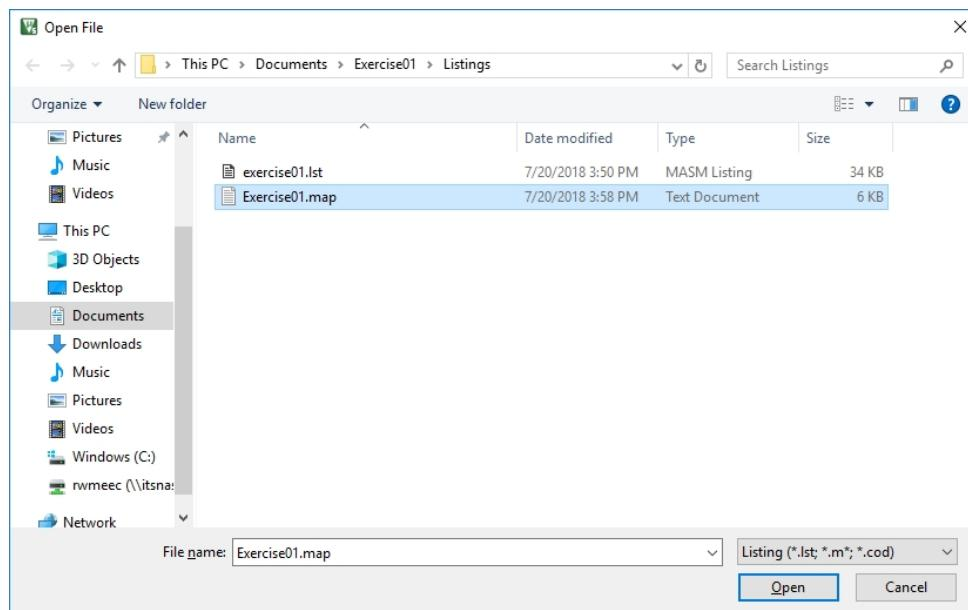

Figure 20. Opening Map File
- From the µVision IDE main menu, select File→Open to launch the Open File window, as shown in Figure 20.